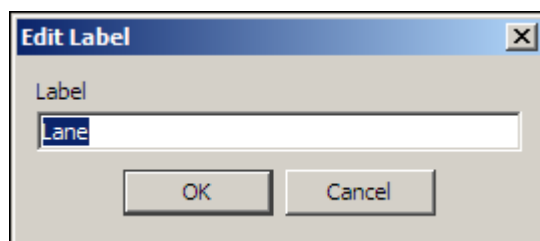

Figure 29: Edit Label
- The **Edit Label** screen is displayed (see Figure 29).